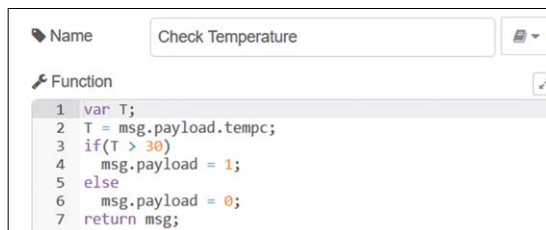

Figure 5.26 Configure the function node
- Create a **function** node with the name **Check Temperature**, and enter the following statements into this node (see Figure 5.26). Here, if the temperature is greater than 30°C then the buzzer is activated, otherwise, the buzzer is deactivated: